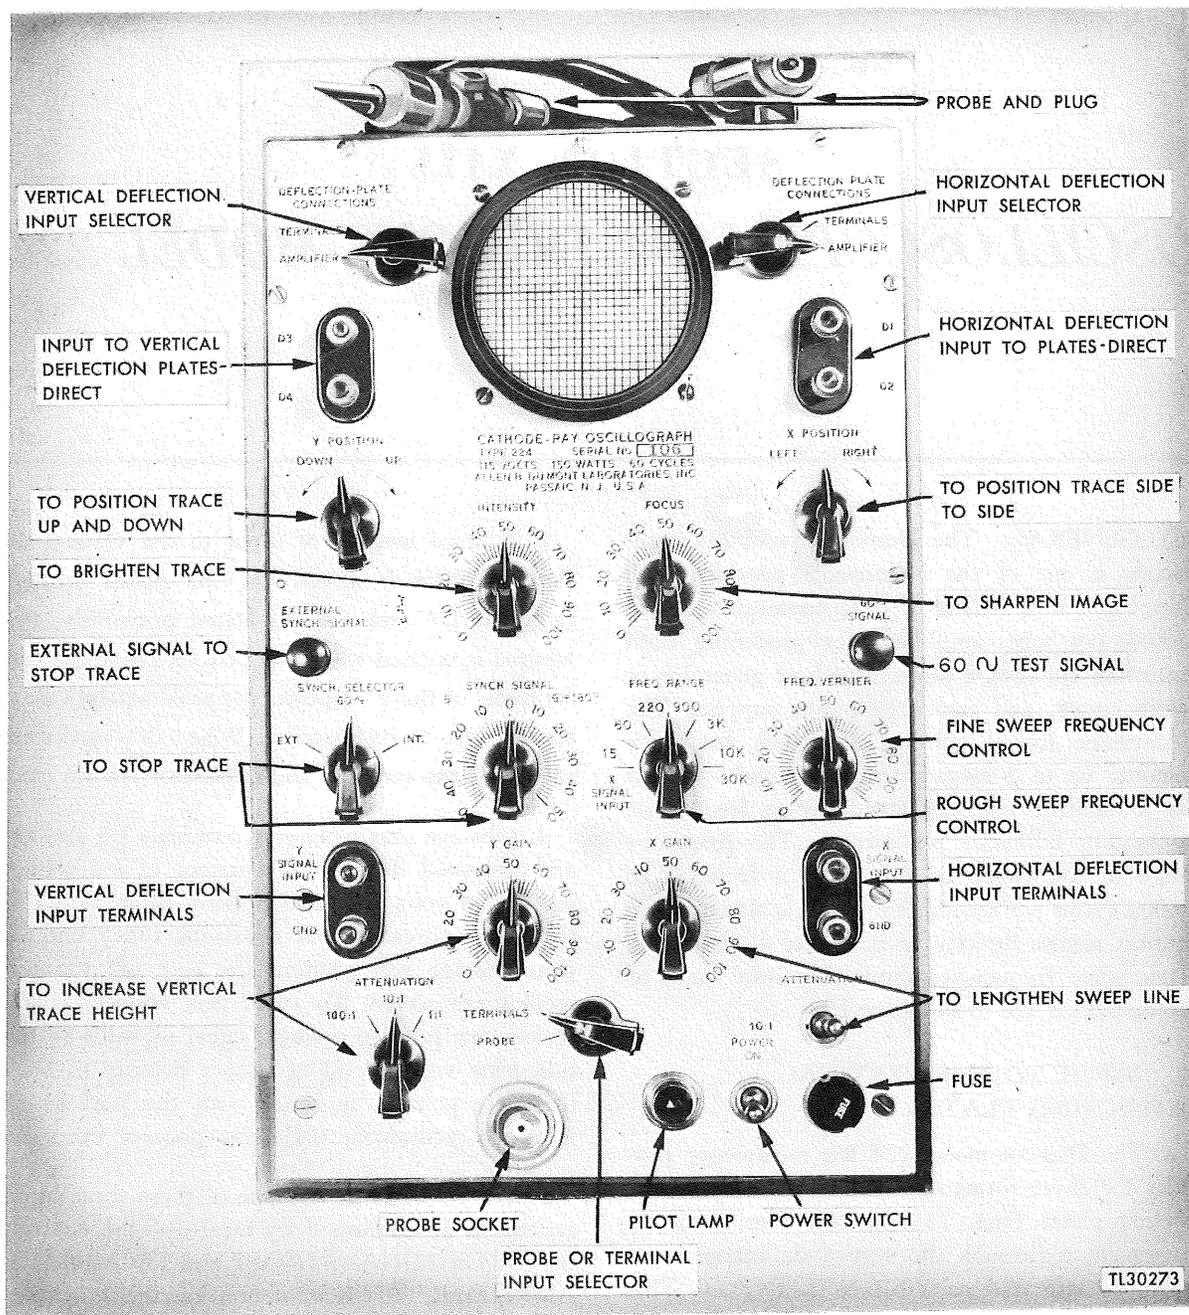

Figure 23. Oscilloscope I-134, Dumont model 224, panel view.
a. The Dumont model 224 test oscilloscope provides for three forms of input to the vertical deflecting plates (figs. 23 and 24). One input arrangement is through the vertical-deflection input terminals indicated as Y-SIGNAL INPUT. This input may be controlled by a 3-step attenuator marked ATTENUATION 100:1, 10:1, 1:1, and an amplifier with a variable-gain control marked Y-GAIN.
b. Another input arrangement to the vertical deflecting plates is by means of a special high-frequency probe. Both probe and socket are illustrated in figure 23. When this probe input is used, the amplifier remains in the circuit, but the 3-step attenuator is cut out.